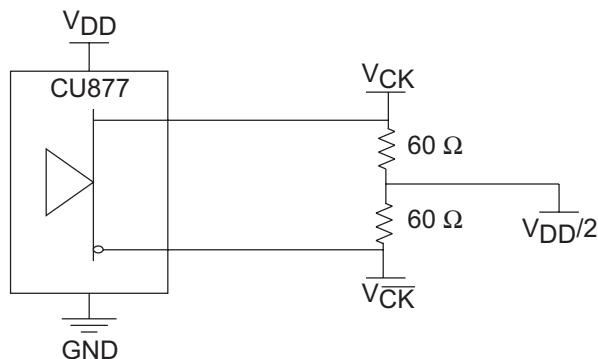
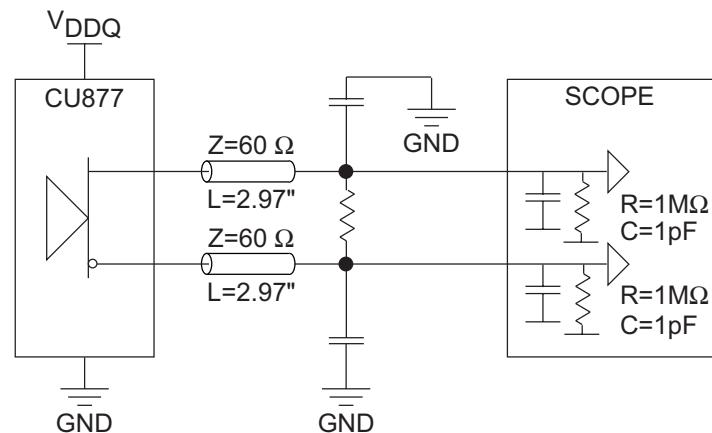

Figure 2. IBIS Model Output Load
Figure 3. Output Load Test Circuit 1
1. There are two different terminations that are used with the following tests. The loadboard in Figure 2. IBIS Model Output Load is used to measure the input and output differential-pair cross voltage only. The loadboard in Figure 3. Output Load Test Circuit 1 is used to measure all other tests. For consistency, equal length cables must be used.